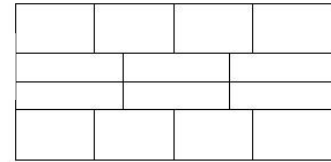

Fig 15
3. Move the cursor, when the rows and columns are a size up, click the mouse and the cell will be split automatically, (Fig15).